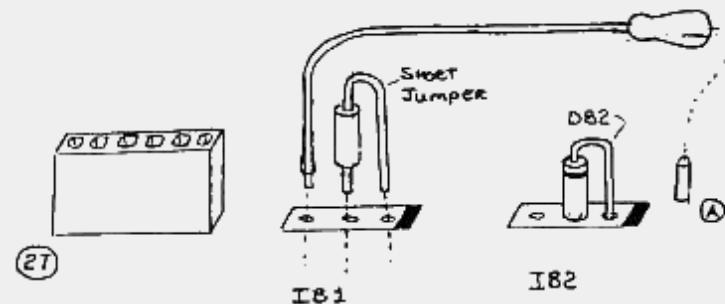
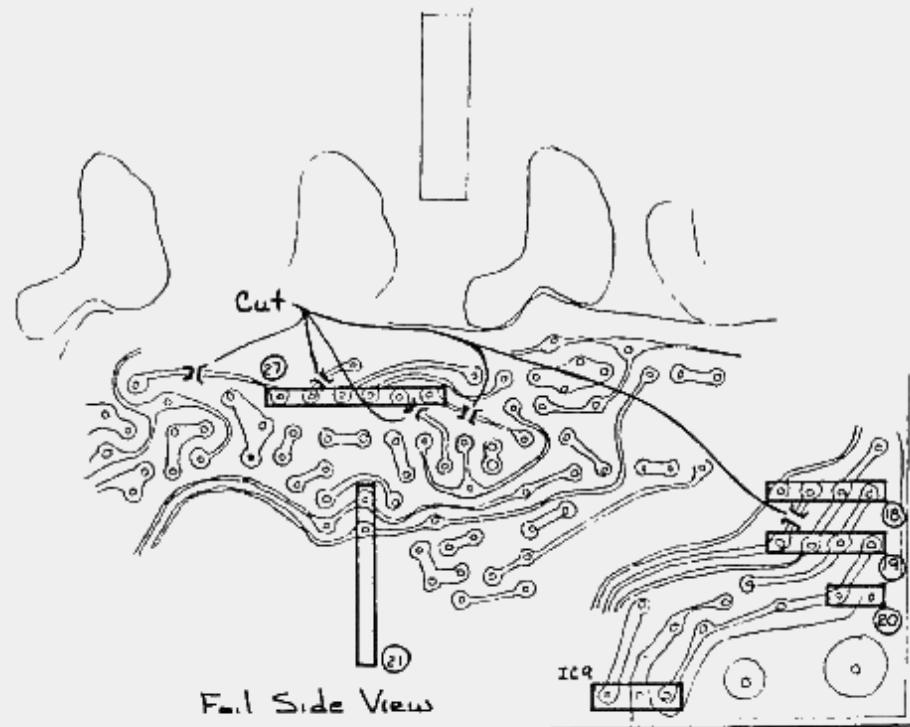

FIGURE 1
FIGURE 2
9. Install J401, J402 (may all ready be installed), J403, D403, D404, R403, R404, and R405 as shown in figure 2 (use the shortest lead lengths possible). Check to ensure there are no solder bridges, or splashes on the board.
10. Install Q401, Q402, R401, R402, D401 and D402 as shown on figure 2, again being careful to check for solder bridges, short, etc.
11. Check to see if D82 is installed, as shown in figure 1. If it is not, install it (1S1555). D83 should also be installed on the foil side of the board, as shown in figure 2.
12. Move the filter select jumper to the "A" pin, as shown in figure 1.